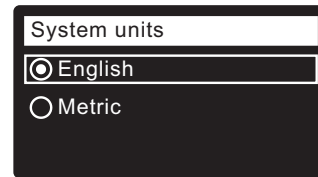

FIG. 24
- SYSTEM UNITS** If the desired system already has a dot next to it (See Figure 24), go to Step 18. Otherwise, press the DOWN (▼) or UP (▲) buttons to scroll to the desired system, then press the SELECT (O) button to choose it.
- Press the SELECT (O) button.